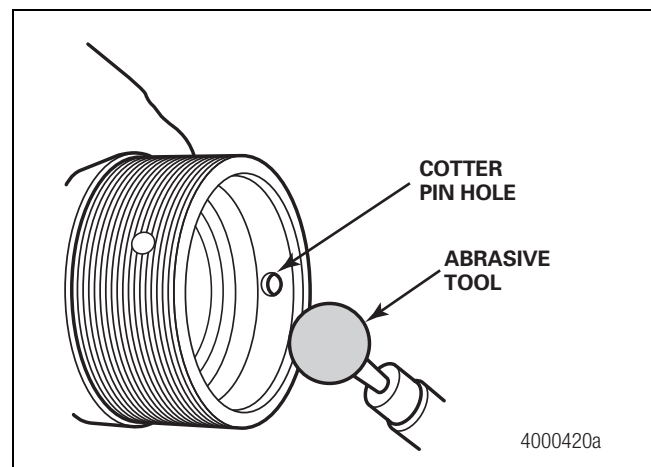

Figure 2.11
- If the axle spindle is equipped with cotter pin holes:** Use a round abrasive tool to remove all metal burrs and sharp edges from the spindle bore side of the cotter pin holes. Figure 2.11.